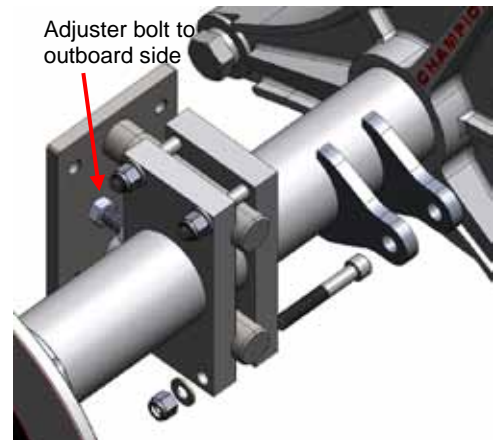

Figure 16
- a. Install the supplied M10 Adjuster Bolts and Jam Nuts to Adjuster Plates (one bolt and nut per plate). Figure 16